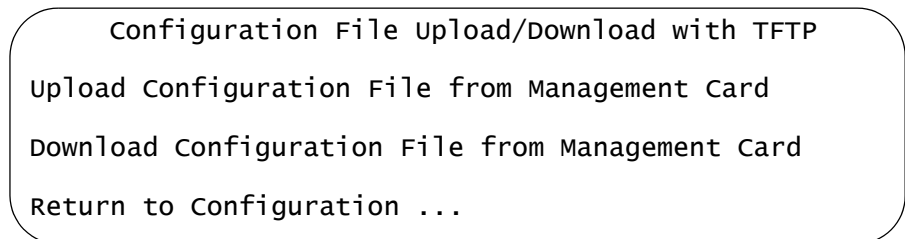

Figure 129. Configuration File Upload/Download with TFTP
2. From the Configuration Menu, select **Configuration File Upload/Download with TFTP** to display the menu in Figure 129.
2. From the Configuration Menu, select **Configuration File Upload/Download with TFTP** to display the menu in Figure 129 on page 281.